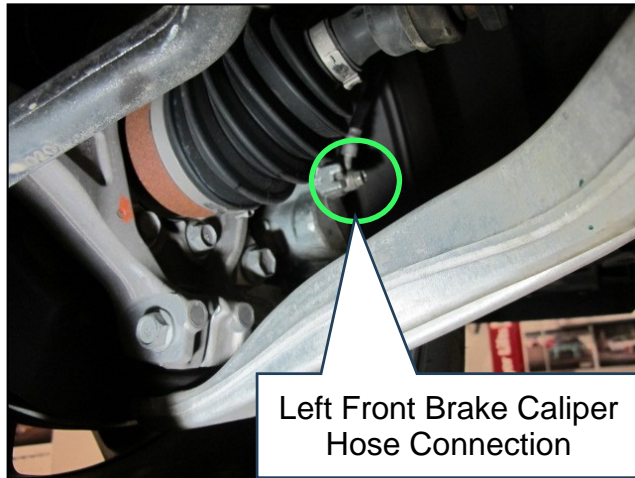
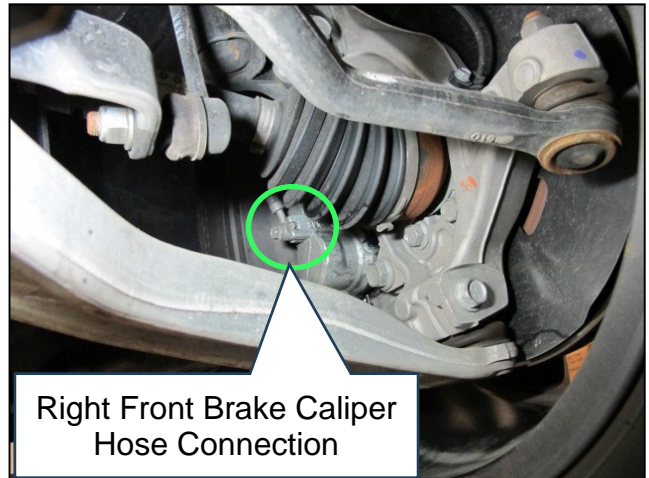

Figure 4
Figure 5
- From the rear of the front suspension, look up between the front transverse links and the drive shaft boots to locate the front brake caliper hose connections (Figure 4 and Figure 5).